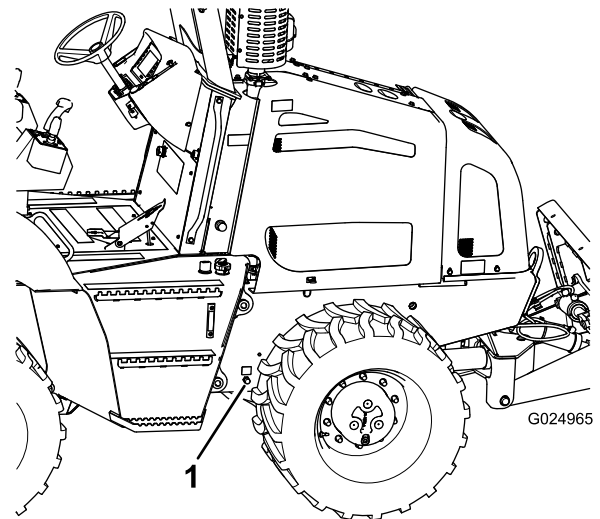

Figure 69
4. Place a drain pan that has a minimum capacity of 20 L (21 US qt) under the engine-oil drain fitting (Figure 69).
5. Remove the cap from the drain fitting and allow the engine oil to drain completely (Figure 69).
7. Install the cap onto the drain fitting (Figure 69).
1. Remove the oil-fill cap from the valve cover by rotating the cap and pulling it upward (Figure 69).